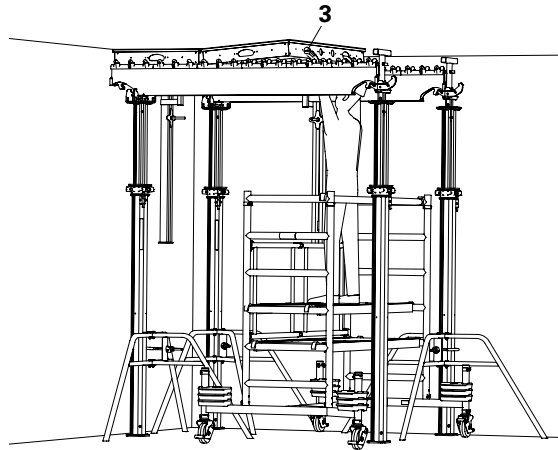

Fig. A4.07
3. Install two additional panels. (Fig. A4.07)